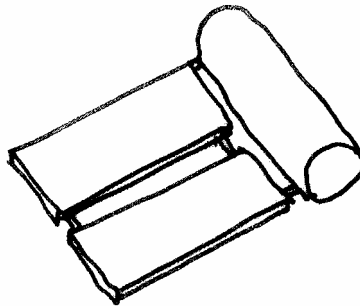

Figure 10.29 – Prefabricated pipe lagging installed on existing pipe
- ❖ Install pipe lagging (insulation) on all hot water pipes and 2m on all cold water pipes connected to geyser. *Fig10.29*